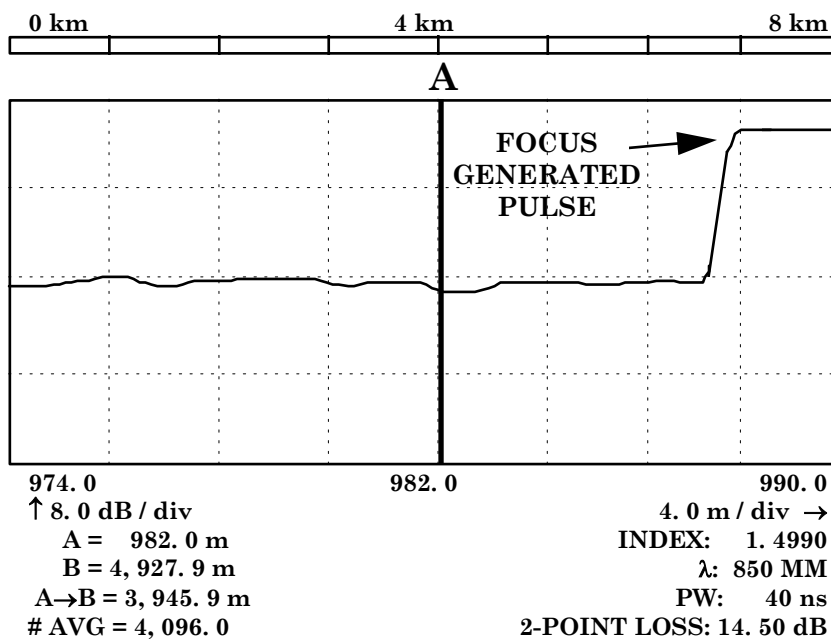

Figure 22. Example of locating FOCUS generated pulse (TD-260C).
(6) Press **MENU OUTPUT** to cycle through steps (7) through (11) below.
(12) Press **MENU DELAY** pushbutton to set **A Delay** to **A = T + 0.000010000000** (10 μ sec).
(13) Press **MENU DELAY** pushbutton to set **B Delay** to $B = A + 0.000010000000$ (10 μsec).
j. Press **HOR CONT** as required to observe FOCUS generated pulse on TI display shown in figure 22 (do not move cursor A).